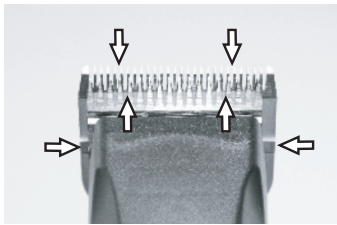

Fig. 24
To receive good clipping results and to increase the durability of the clipper and the clipperhead, it is necessary to apply a thin oil coat between top and bottom blade (fig. 24).
- ▶ Lubricate the blades sufficiently during the clipping (at least every 15 minutes), so that they do not drain (fig. 24).
The blades must be oiled before, during and after every use. When the blades of the clipper are leaving stripes, this is a signal that oil is required. Place a few drops of oil ahead and laterally on the clipper blades (see arrows in fig. 24). Wipe off the excessive oil with a smooth, dry cloth. Lubrication sprays do not have sufficient oil for a good lubrication, but serve for cooling the blades. Immediately change damaged or crenated blades to avoid injuries.